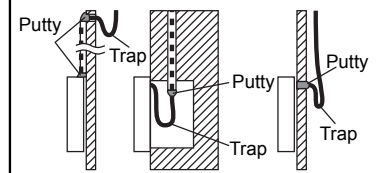

Fig.10
- Avoid the water enter into the wired remote controller, use trap and putty to seal the connectors of wires during wiring installation. (Fig.10)